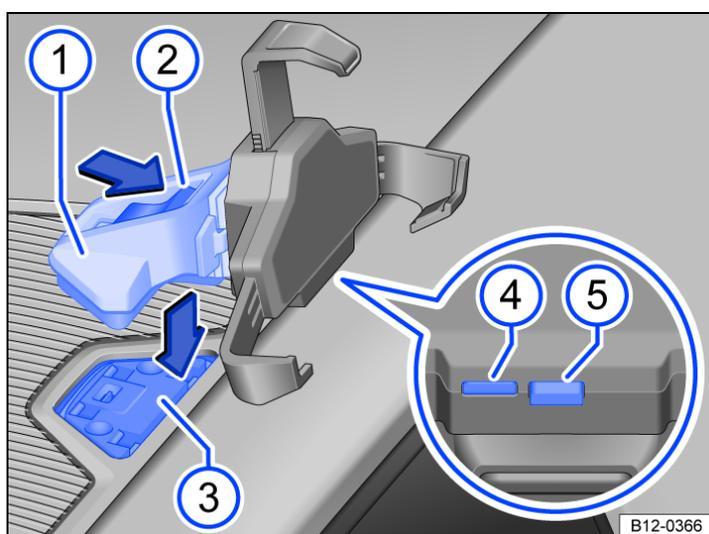

Fig. 2 On the dash panel: close the opening of the Infotainment system mounting.
- Insert the mobile device in the lower retainers. To adjust the holder to the size of the mobile device, press button → Fig. 2 (4) and press the retaining arms together to the width of the mobile device.
- Press the release button → Fig. 2 (5) until the upper arm releases the mobile device.
- Hold the retaining arm → Fig. 2 ① tight and press the release button → Fig. 2 ② in the direction of the arrow.
- Move the universal holder to the side towards the catch ④ until you hear it engage → ⚠.
- Insert the retaining arm → Fig. 2 ① from above into the base plate → Fig. 2 ③ and press it down until you hear it engage → ⚠.